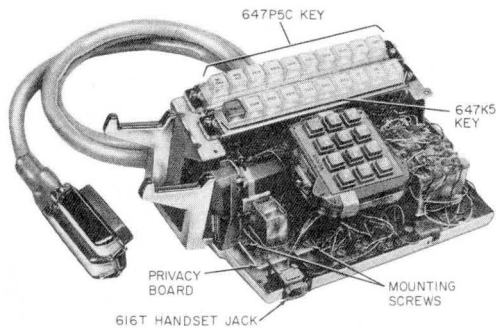

Fig. 2—2833BM Telephone Set Base
they have been adapted for wall mounting. The modular sets will all be equipped with a G15A-50 handset and H4DU-50 handset cord which will plug into a 616T jack mounted on the left front of the telephone set base (Fig. 2). Current production models of these sets also are equipped with an improved line switch and an automatic button restoral (ABR) feature. Some early production BM and CM sets were not so equipped.
**2.02** The 833B (MD), or 833BM, 833DM and 2833B (MD), or 2833BM, 2833DM telephone sets are equipped with a 647K5 key in the lower key position consisting of a hold button, six line buttons, and three intercom buttons. A 647P5C key is located in the upper key position consisting of a RECALL button, a Privacy Release (PRIV RLS) button, and eight line buttons. The privacy circuit board is factory installed and wired (Fig. 2).
- (1) Mount privacy circuit board on the two standoffs located at the left front of the telephone set base (Fig. 2) using mounting screws furnished with the telephone set.
- (2) Refer to Table C for connections.
- (3) To test privacy circuit refer to 3.06.